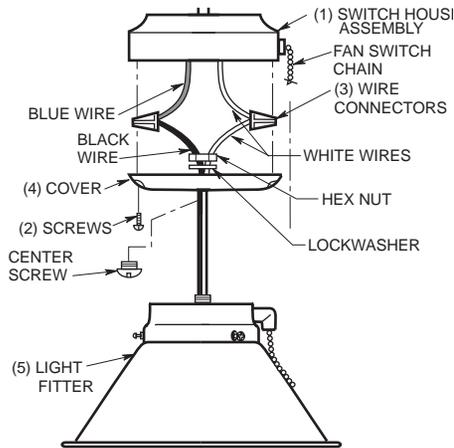

Figure 4
2. Remove and retain the four round nuts and screws securing the cage to the light fitter (Figure 4). Remove the cage and the glass globe/plate.
1. Remove the cover (4) from the switch housing (1) below ceiling fan (Figure 4). Retain screws (2) for future use. Remove the center screw from the cover (4).
2. Insert the black and white wires from the light fitter (5) through the center hole in the cover (4) and thread the cover onto the light fitter and tighten. Install the spring lockwasher and hex nut.